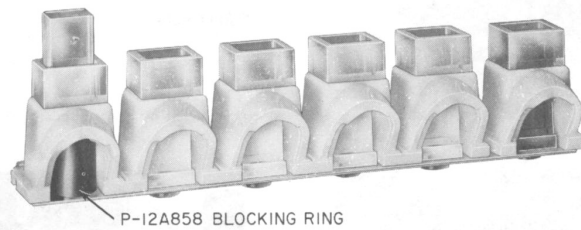

Fig. 11—P-12A858 Blocking Ring, Installed
- 3.03 Unused buttons, either round or square style, may be blocked with a P-12A858 blocking ring furnished with each telephone set. Insert as shown in Fig. 11.